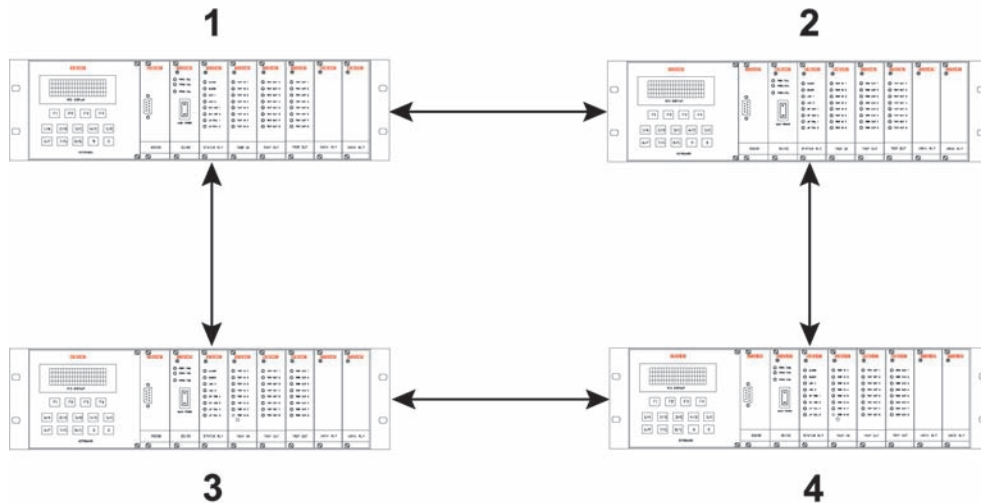

Figure 3-17. Ring Configuration
**EXAMPLE:** Figure 3-17 shows a ring of four PDR-2000s with bi-directional communications between units. With Packet Forwarding On, Unit 1 can send a Trip to Unit 4. For the purposes of this example, Unit 4 is programmed to Trip when it receives a Trip from Unit 1 on channel B. Unit 1 communicates over two different communication paths (using Com port 1 and Com Port 2) to Units 2 and 3. Units 2 and 3 do not output a Trip because they are not programmed to receive a Trip from Unit 1 on channel B. Unit 2 passes the Trip instruction to Unit 4, and Unit 3 passes the Trip instruction to Unit 4 through their other Com ports. When Unit 4 receives the Trip, the appropriate Trip output is activated. It does not matter that Unit 3 receives the Trip twice.